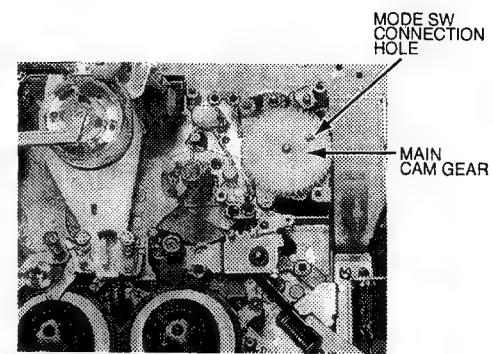

Fig. M-6
- Fig. M-6 Remove the Main Cam Gear.